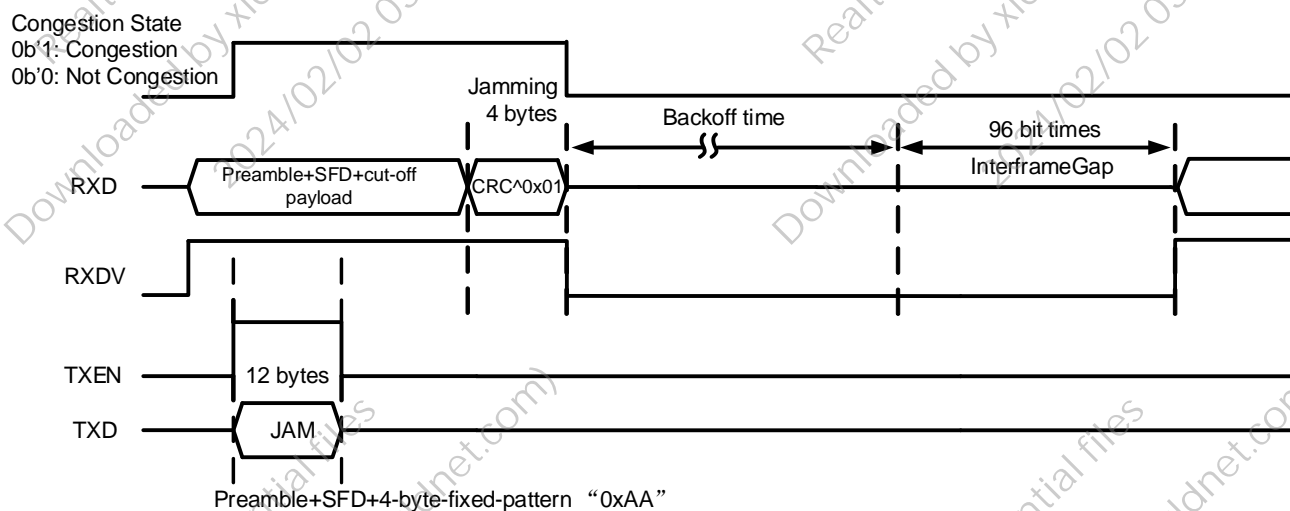

Figure 7. Collision-Based Backpressure Signal Timing
- The link partner waits for a random back-off time then re-sends the packet. The timing is shown in the Figure 7 below